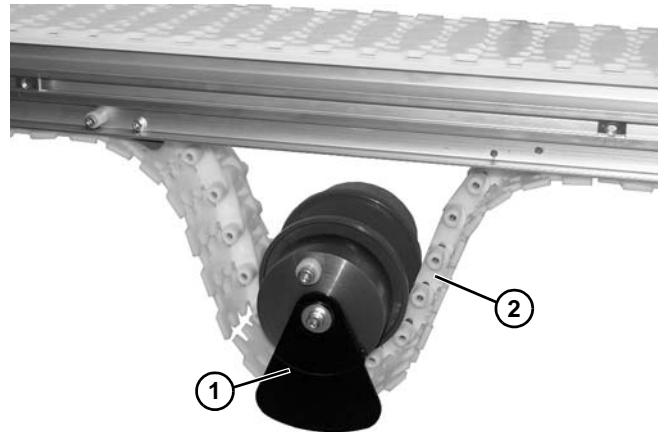

Figure 158
11. Install idler pulley assembly (**Figure 158, item 1**) onto conveyor in belt loop (**Figure 158, item 2**).